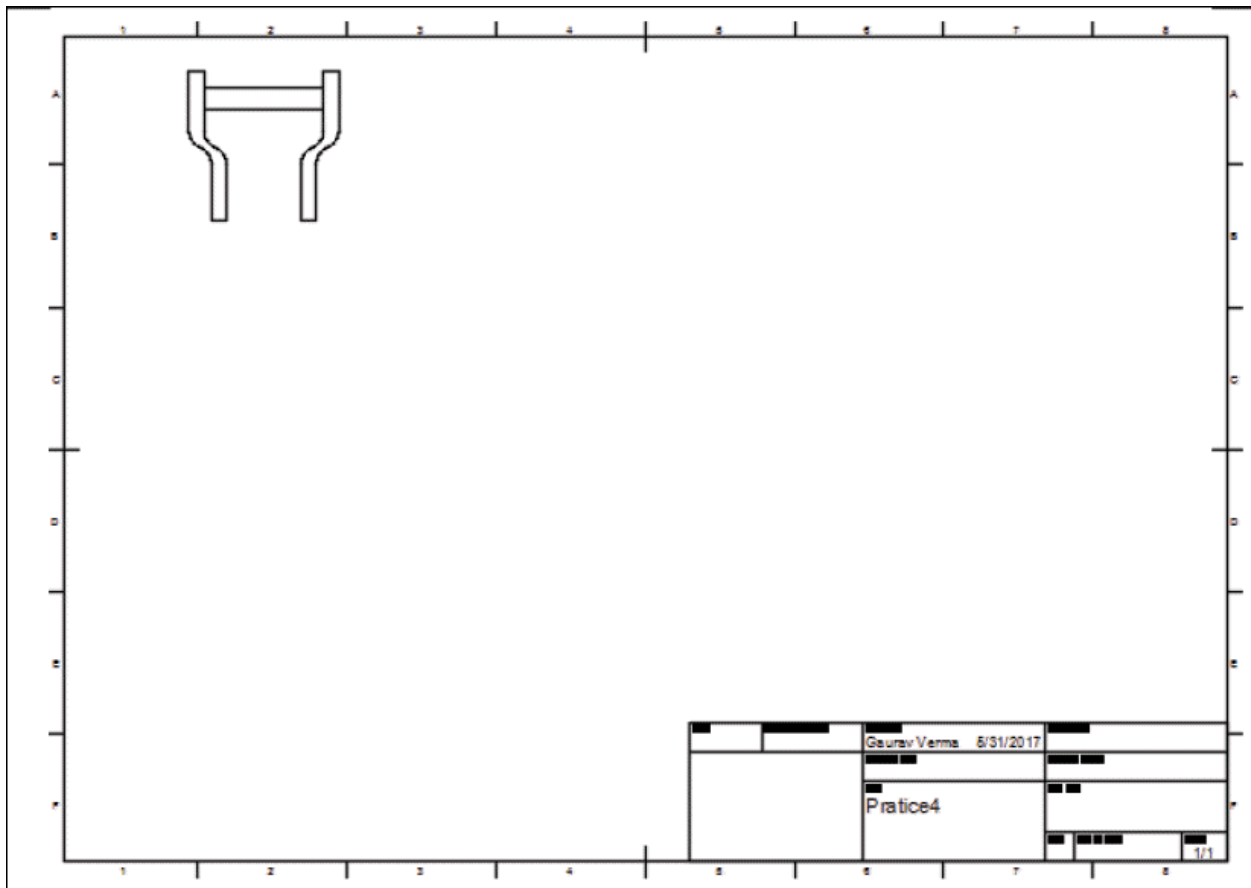

Figure-3. Top view of model
- After specifying the parameters in **DRAWING VIEW** dialog box, click on **OK** button. The selected view of model will be placed; refer to Figure-3.